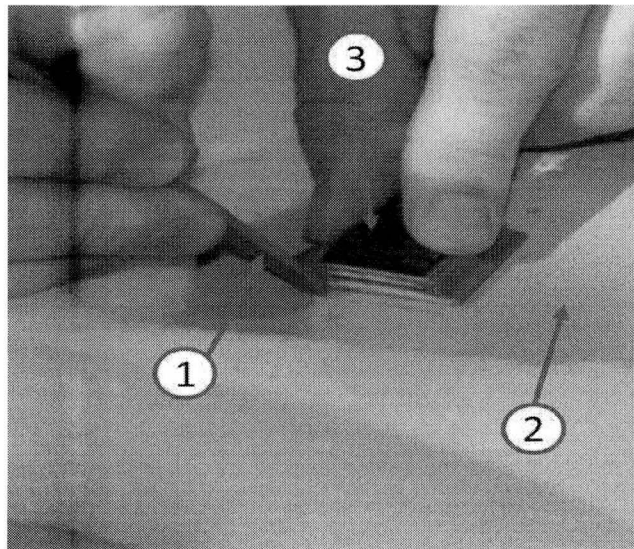

Fig. 6 Door Panel Preparation
7. Temporarily engage the dual lock halves in order to transfer the clip location from the module to the door panel using Kent Leak Trace Powder or equivalent and scribe the clip location on the back side of the door panel as shown in (Fig. 6).